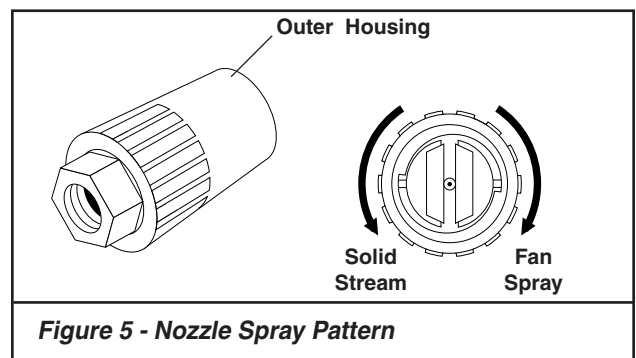

Figure 5 - Nozzle Spray Pattern
2. Select the width of your nozzle spray pattern by turning the black knob on the nozzle. See Figure 5. Pattern can be from 0° through 80° fan spray. Release the trigger of the trigger gun prior to making any spray pattern adjustments.